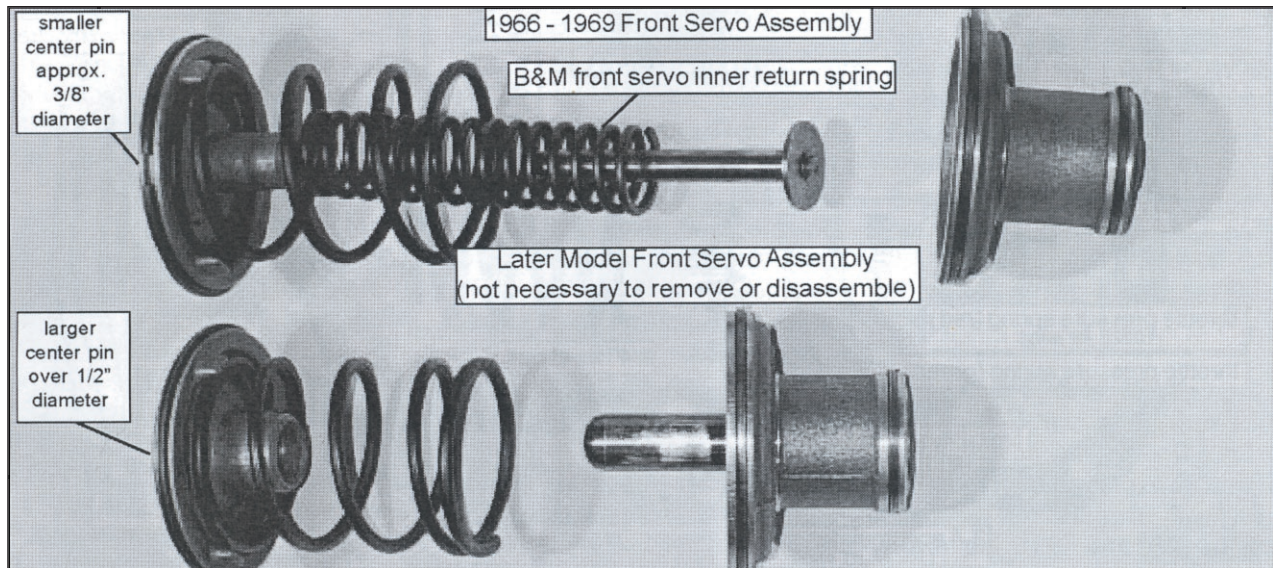

Figure 4
9. **For 1966 through 1969 transmissions -** Install the supplied front servo inner return spring if not already equipped. Later model transmissions do not require any front servo modification (Figure 4). The later model front servo piston has a larger (over 1/2") diameter center pin and does not require any disassembly or modification.